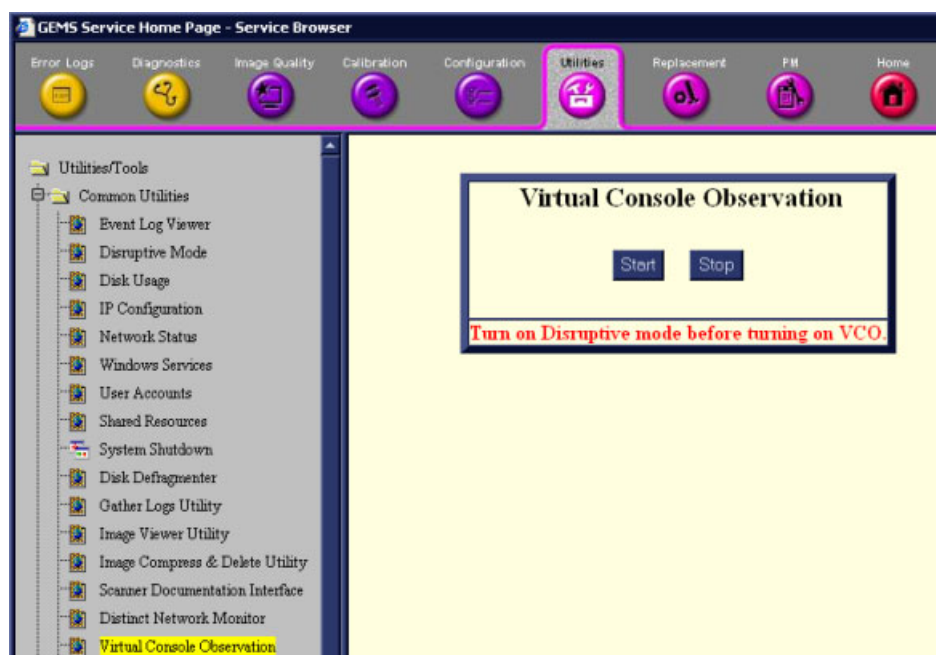

Figure 7-135 Virtual Console Observation
- **Virtual Console Observation** - this is started once the Disruptive mode has been invoked. See Figure 7-135.